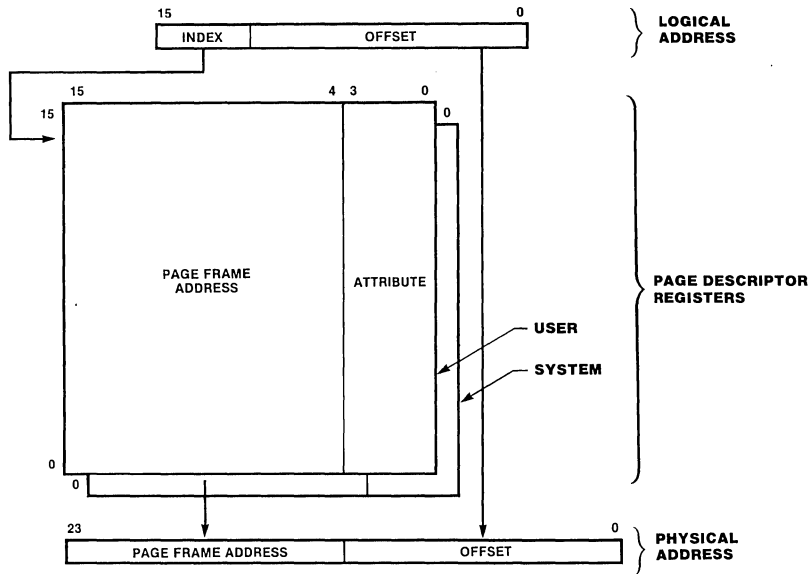

Figure 19. Address Translation
**Address Translation.** Address translation is illustrated in Figure 19. While the Program/Data Space Separation bit is cleared to 0, the 16-bit logical address is divided into two fields, a 4-bit index field used to select one of 16 Page Descriptor registers and a 12-bit offset field that forms the lower 12 bits of the physical address. The physical address is composed of the 12-bit page frame address (bits 4-15) supplied by the selected Page Descriptor register and the 12-bit offset supplied by the logical address.